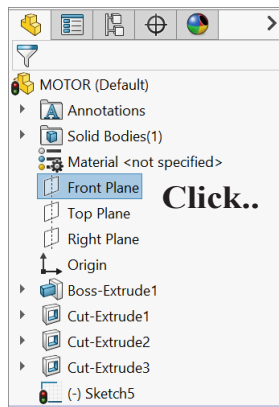

Fig. 29
Step 11. Click **Front Plane**  in the Feature Manager to select plane, **Fig. 29**.